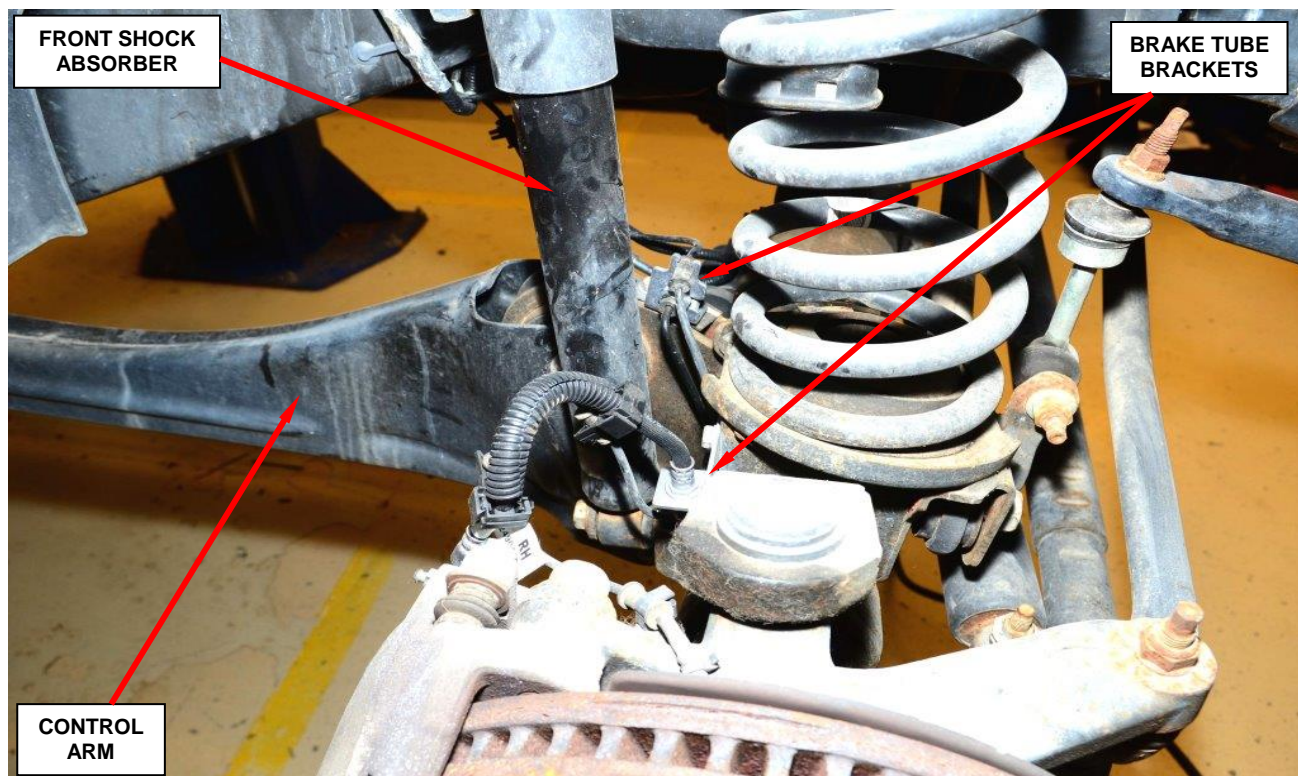

Figure 5 – Brake Tube Brackets
5. Remove and save the brake tube bracket bolt from the right and left control arm brackets (Figure 5).
6. Remove and save the brake tube bracket bolt from the right and left coil spring lower bracket (Figure 5).
14. Install the brake tube bolt from the coil spring lower bracket (Figure 5).
15. Install the brake tube bracket bolt from the control arm brackets (Figure 5).